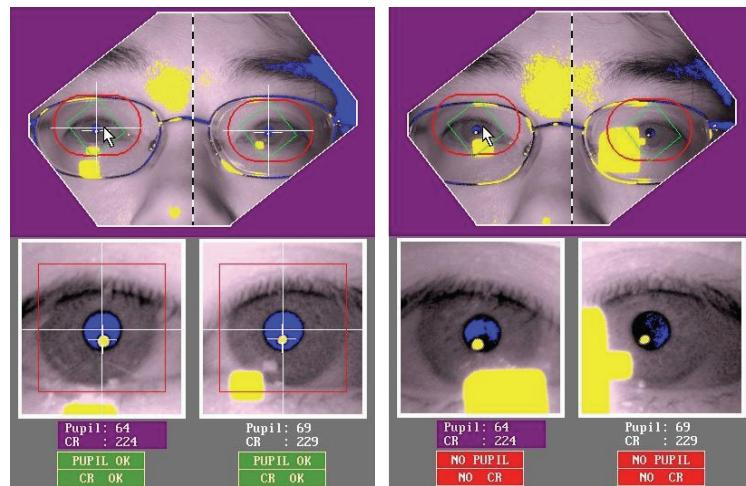

Figure 3-15. Camera Setup with Subjects Wearing Glasses (Desktop Mount – Camera Angled).
- 20) Once the camera is set up, the experimenter should monitor the thumbnail camera images at the lower left corner of the tracker screen when in the Offline, Calibrate, Validate, Drift Correct, Output and Record screens (see Figure 3-15). The two dots in the middle panel reflect the ever changing target and eye position in the global camera image. For reliable tracking, both dots should stay within the red box. If they fail to do so, adjustment of the camera's view of the subject is advised.